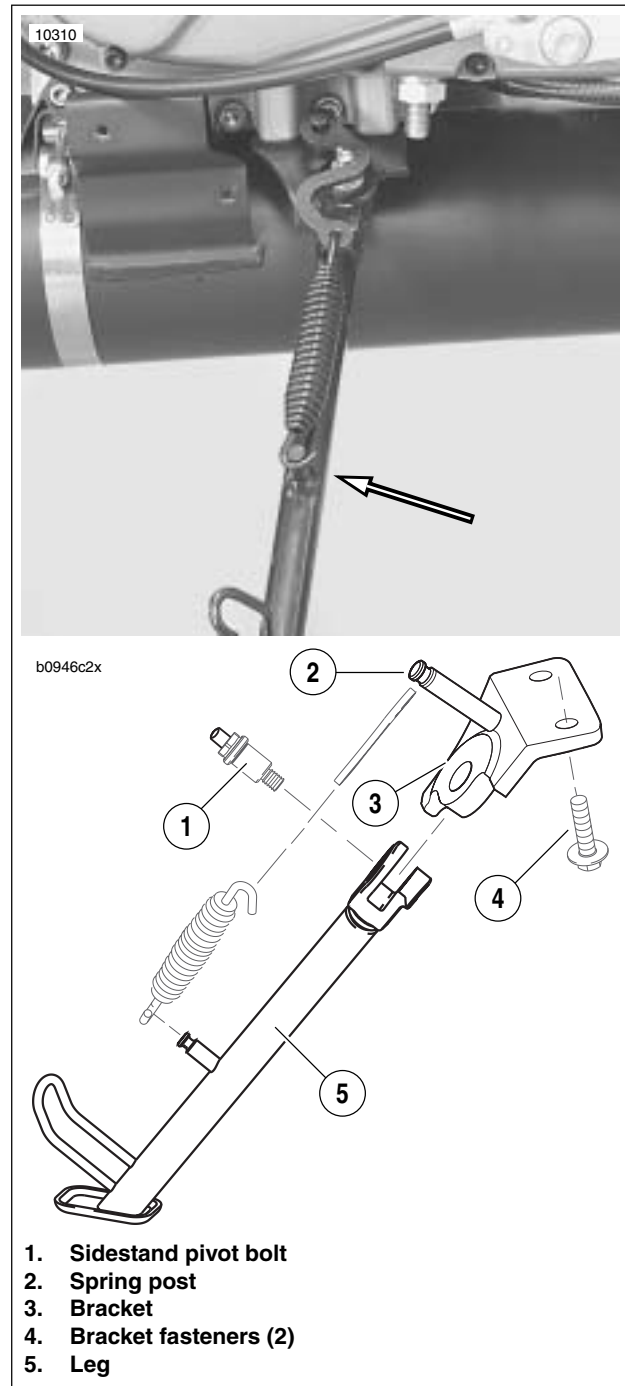

Figure 2-120. Sidestand Assembly (Extended)
2. See Figure 2-120. Remove fasteners (4) securing side-stand bracket (3) to frame.